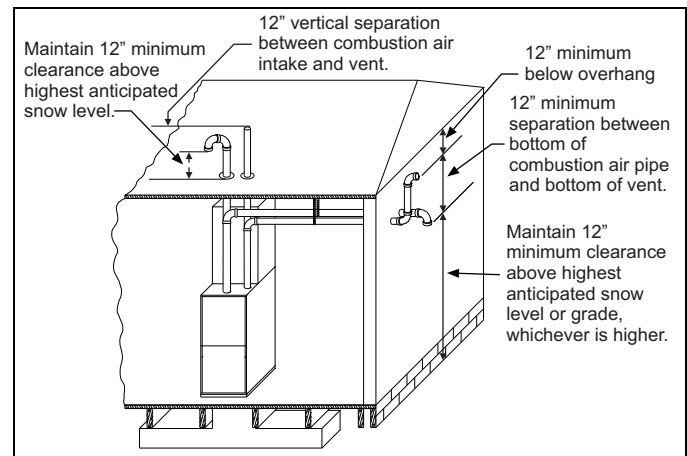
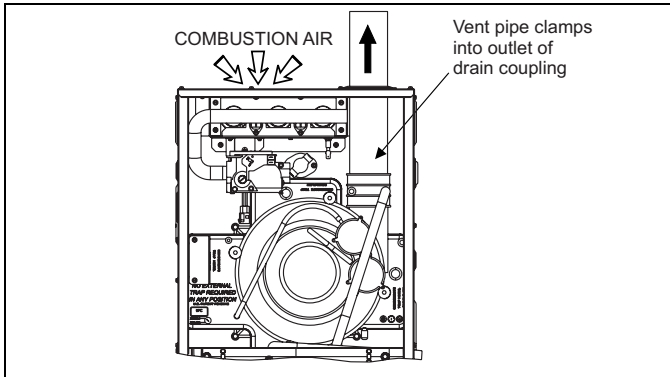

**FIGURE 35:** Termination Configuration - 1 Pipe
FIGURE 42: Combustion Airflow Path Through The Furnace Casing
The combustion air side of the single pipe configuration shown in Figure 42 is referred to in these instructions as ambient combustion air supply. Follow the instructions for ambient combustion air installations, paying particular attention to the section on air source from inside the building. The vent for a single pipe system must be installed as specified in the venting section of these instructions with both vents terminating as shown in Figure 35. Each furnace must have a separate vent pipe. Under NO circumstances can the two vent pipes be tied together.
2. **AMBIENT COMBUSTION AIR:** Combustion air is supplied from the area surrounding the furnace through openings in the furnace casing. The combustion air and the vent pipes are not terminated in the same atmospheric zone. Refer to Figure 35 for vent terminations. Refer to "Ambient Combustion Air Supply" for proper installation. Refer to Figures 42 and 43.